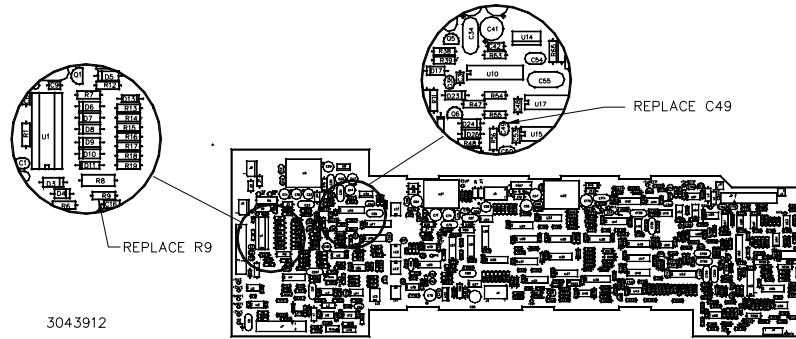

FIGURE 3. FRONT END CONTROL BOARD, A4A3, COMPONENT LOCATIONS
1. On Front End Control board A4A3, locate resistor R9 (see Figure 3).
3. On Front End Control board A4A3, locate capacitor C49 (see Figure 3).